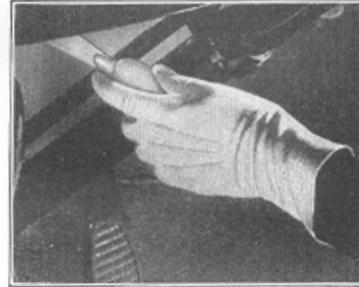

Figure 9
*To raise* the bonnet first unlock it by pushing forward on handle, Fig. 9. Then grasp the bonnet upper moulding at the rear end and raise the bonnet. Strong, self-locking supports hold the bonnet in its raised position.